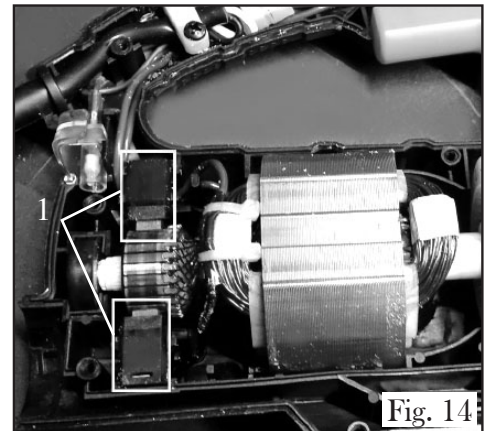

Fig. 14
CARBON BRUSH REPLACEMENT (Fig. 14 & 15)
1. To access the carbon brushes, remove the clear plastic blade guard and unscrew the 11 screws from the right housing. Remove the housing and check the brushes, located left of the stator and pressed against the motor commutator (Fig. 14).